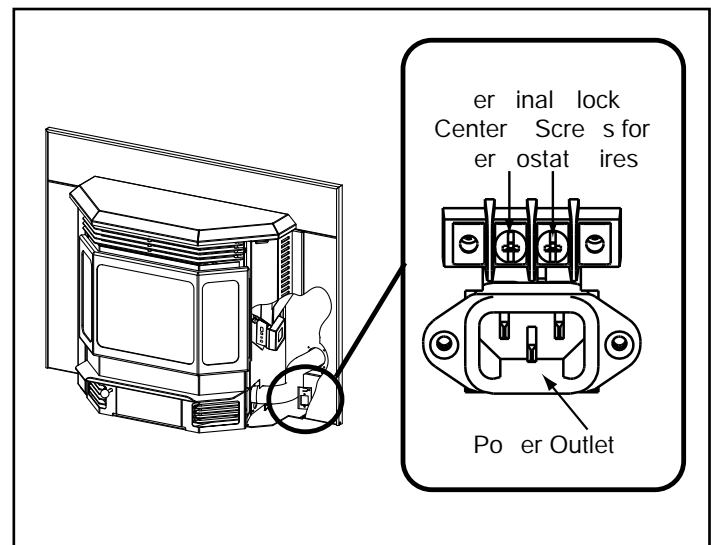

Figure 24.3
3. Open right side plane to access a 4 screw terminal block located on the bottom right hand side next to the power cord inlet. The center 2 screws are for the thermostat wires. The outer 2 are the mounting screws for the terminal block. **Figure 24.3**.